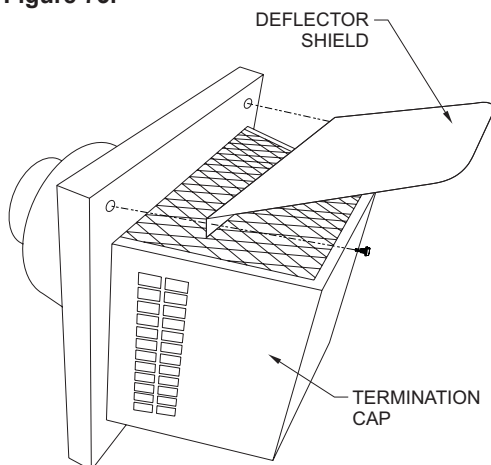

Figure 73
10. Secure the termination cap to the house exterior using four 1/8 x 3 inch long screws. Be sure to install the Deflector Shield with the two screws at the top of the termination base. **See Figure 73.**